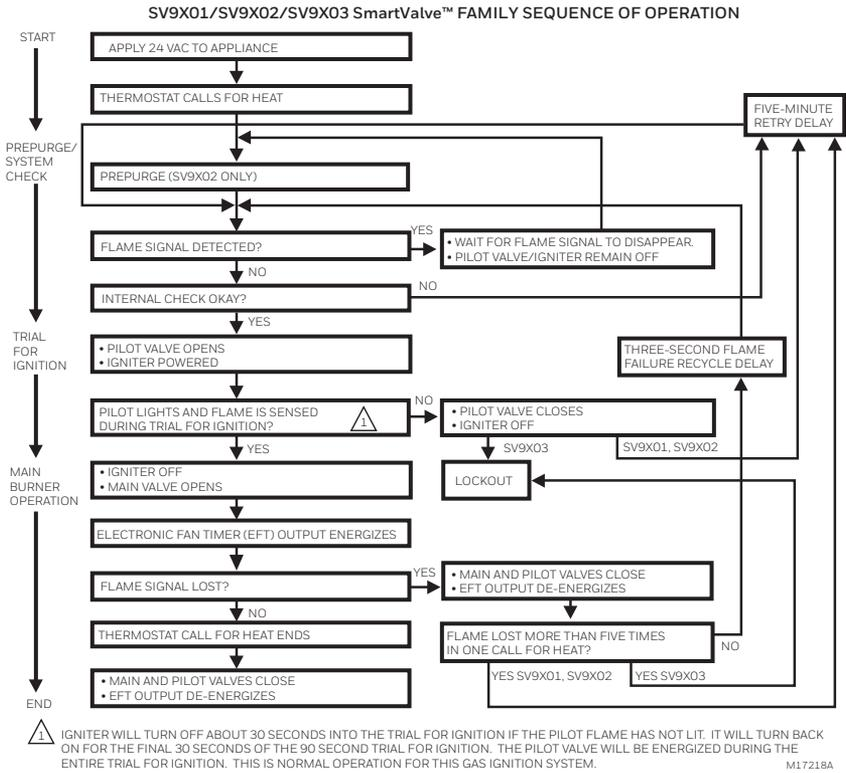
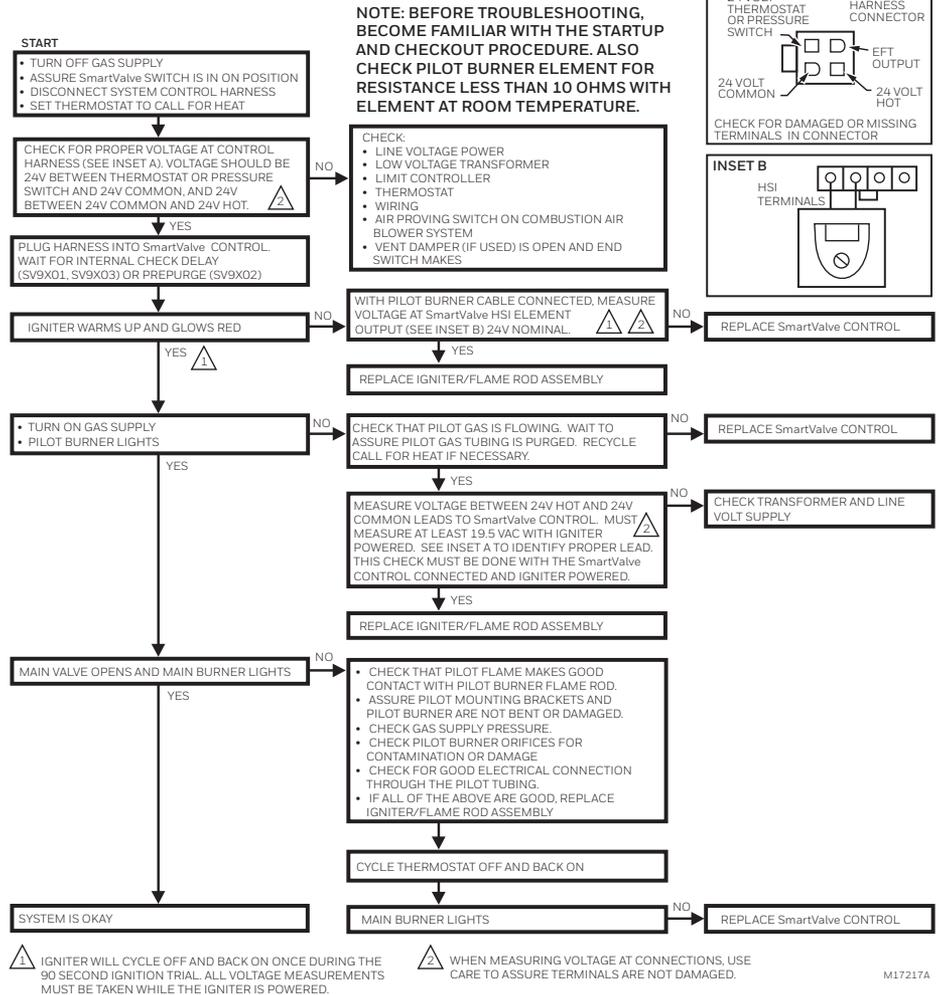

Fig. 13. SV9401/SV9402/SV9403, SV9501/SV9502/SV9503, SV9601/SV9602 SmartValve sequence of operation.
Fig. 14. SV9401/SV9402/SV9403, SV9501/SV9502/SV9503, SV9601/SV9602 SmartValve troubleshooting sequence.
Fig. 13 shows the sequence of operation for this family of gas controls. When reviewing sequence of operation:
4. If the appliance does not light, check for proper ignition control system operation. Use Fig. 13.
5. If it appears the ignition control system is not working properly, use Fig. 14 as a troubleshooting guide.
6. Follow the Operating Sequence and Troubleshooting flow charts Fig. 13 and Fig. 14 to determine if the ignition control system is defective.
NOTE: Most modern gas appliances have more than one component in the control string. Improper operation of any one component in the control string can cause the appliance to fail to operate. Use Fig. 14 to locate and correct the true source of the problem.